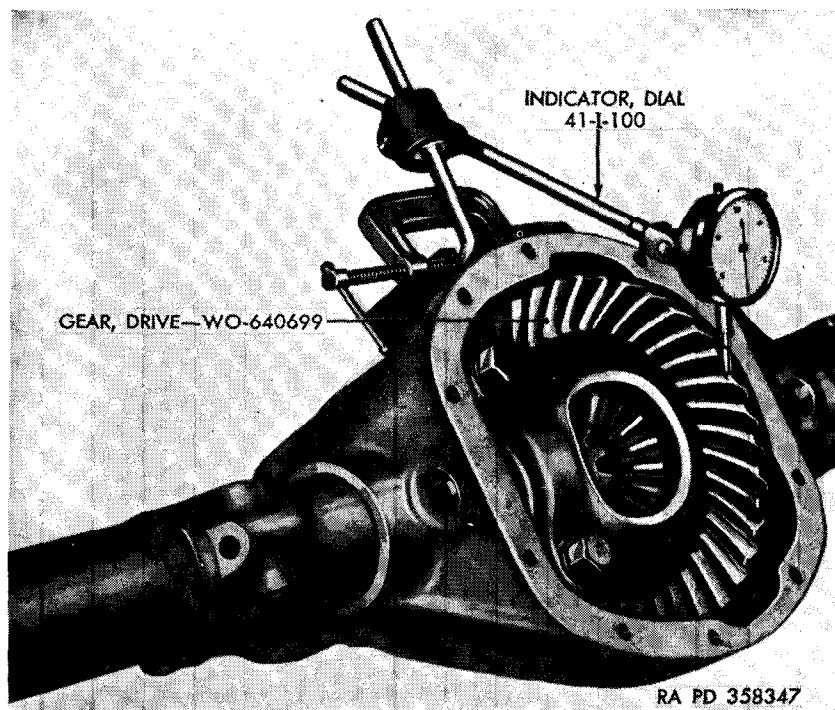

Figure 83. Checking backlash of drive gear with indicator 41-I-100.
a. Check Backlash. Install a dial indicator 41-I-100 (fig. 83) on the carrier housing so that the dial indicator contact point is resting on the surface of a drive gear tooth. Rotate the drive gear back and forth to determine the backlash. If the backlash registered on the indicator is less than 0.005 inch or more than 0.007 inch, remove the differential case from the carrier housing (par. 92). If the backlash is more than 0.007 inch, the drive gear must be brought closer to the drive pinion. If the backlash is less than 0.005 inch, the drive gear must be moved away from the drive pinion. This is accomplished by removing case bearing shims equal to the error in backlash from the drive flange side of the differential case and adding them to the other side. After changing position of the case bearing shims, install the differential case bearing cones on the differential case. Install the differential case assembly (par 105) in the carrier housing and check the backlash.